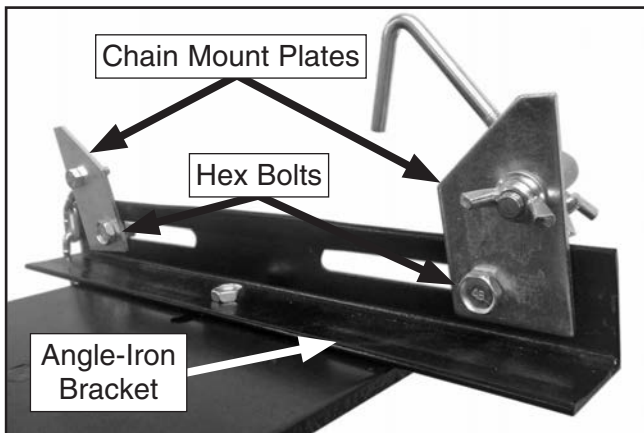

Figure 8. Chain mount plates attached to angle-iron bracket.
- Install (2) chain mount plates on inside edges of each angle-iron bracket with (1) M10-1.5 x 25 hex bolt, 10mm flat washer, and M10-1.5 hex nut, as shown in **Figure 8**.